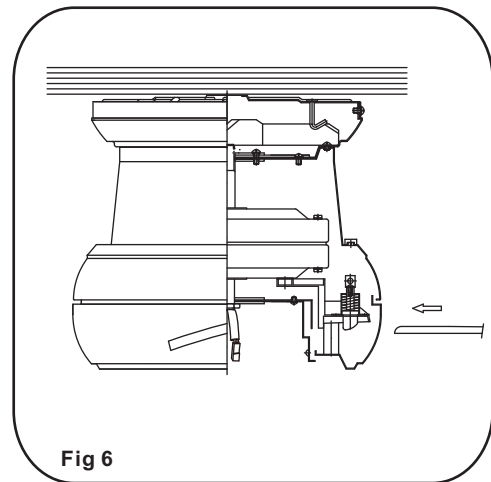

Fig 6
Step 1. Insert the blades into the motor housing blade slots, push blade until it stops. You should be able to hear the inside safety pin drop into the blade hole to secure the blade in place. (Fig. 6)